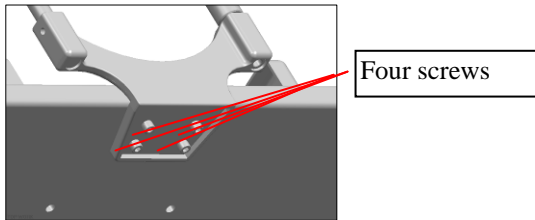

Fig 2.2.4
8. Remove the four screws of B Team with screw drive, and fix the chin-rest part to the tabletop in the way as the following picture shows. (Fig. 2.2.4)